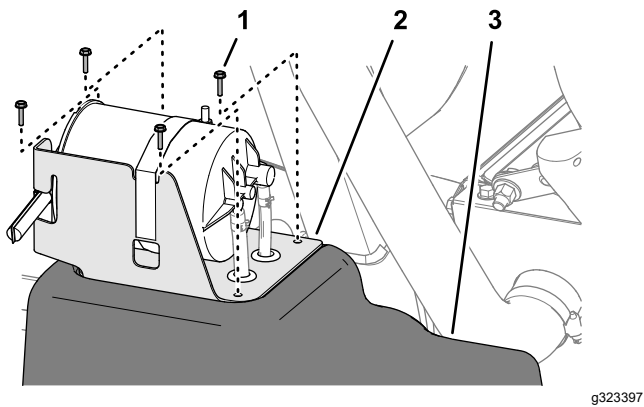

Figure 92
5. Align the holes in the carbon-canister bracket with the holes in the fuel tank (Figure 92).
6. Assemble the bracket to the tank (Figure 92) with the 4 screws (#10 x 3/4 inch).